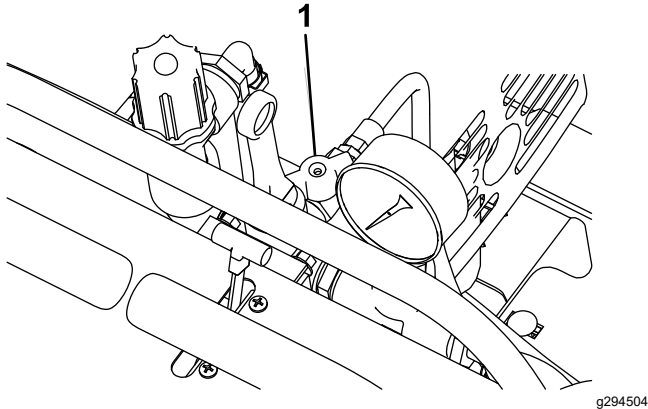

Figure 21
3. Turn the spray gun valve to the OPEN position (Figure 21).